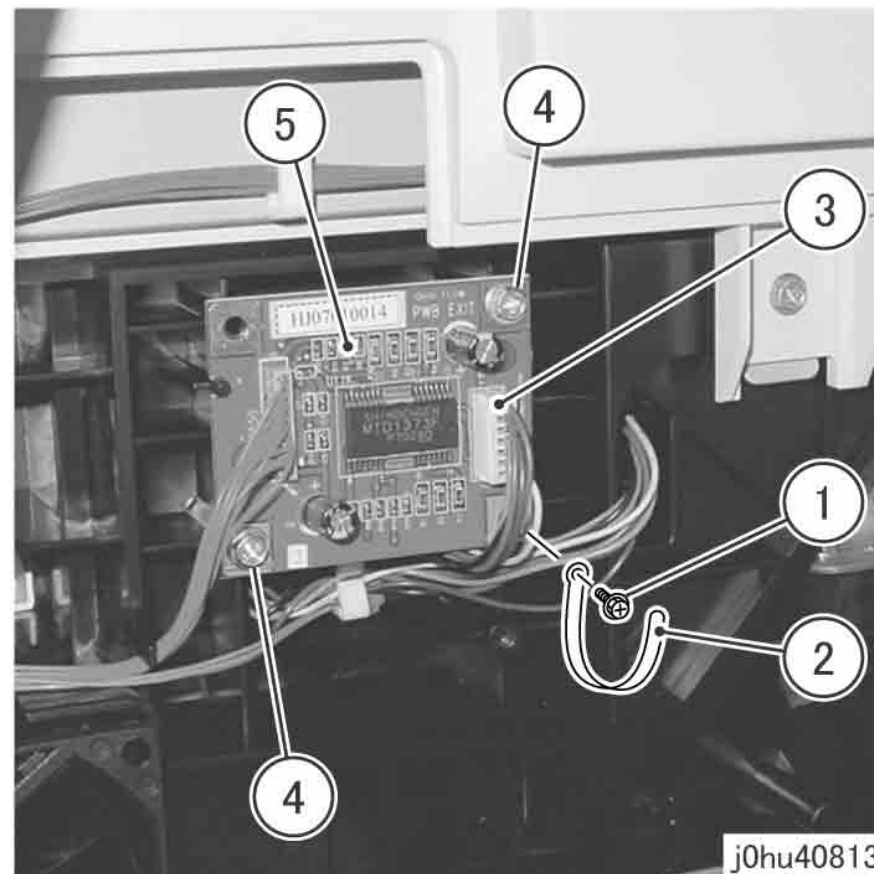

Figure 2 Remove Duplex PWB
3. Remove the Duplex PWB (Figure 2).